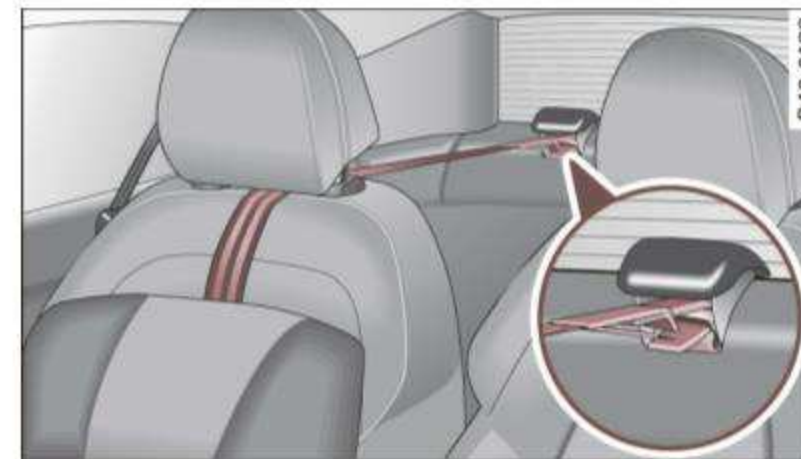

Fig. 110 Tether strap: Proper mounting and mounting
- Tilt the recess flap up to expose the anchor bracket ⇒ fig. 110.